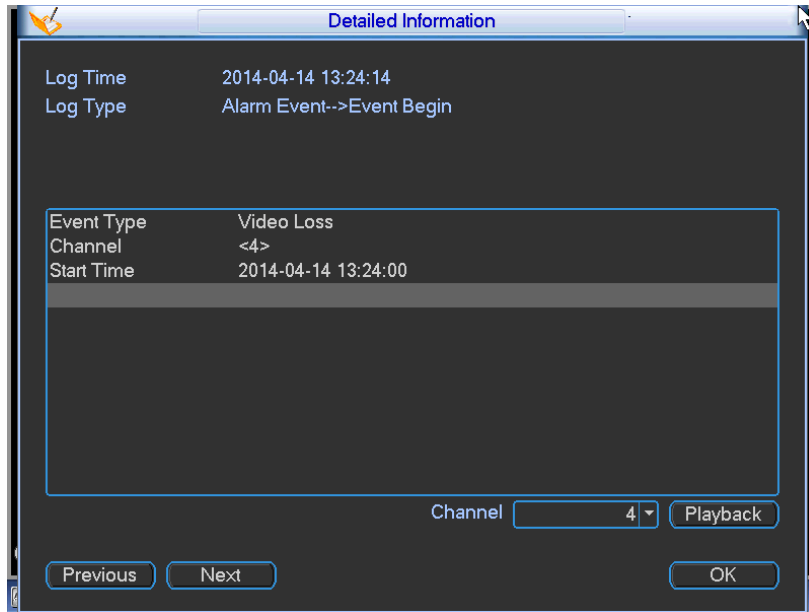

Figure 4-15
- Details: Click the Details button or double click the log item, you can view the detailed information. See Figure 4-15. Here you can use rolling bar to view information, or you can use Page up/Page down to view other log information.